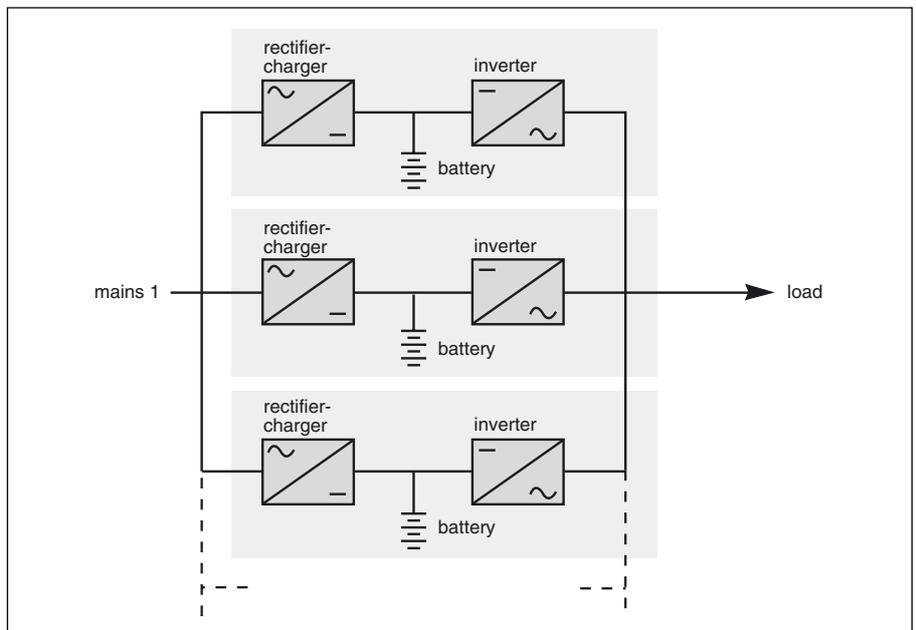

Fig. 6
- ▶ Frequency converters with backup power: (figure 6)